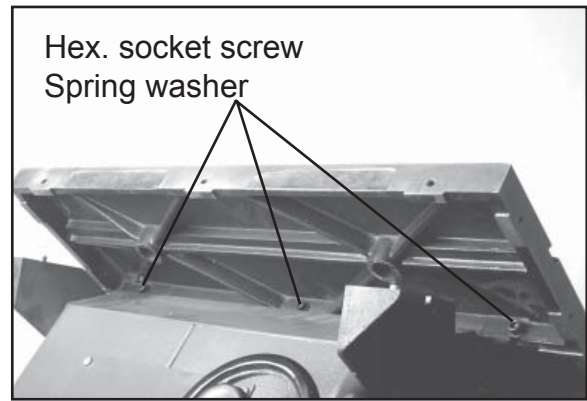

Figure 1
1. Mount the cast iron table wing using three M10x30 hex head bolts and three M10 flat washers. Figure 1.